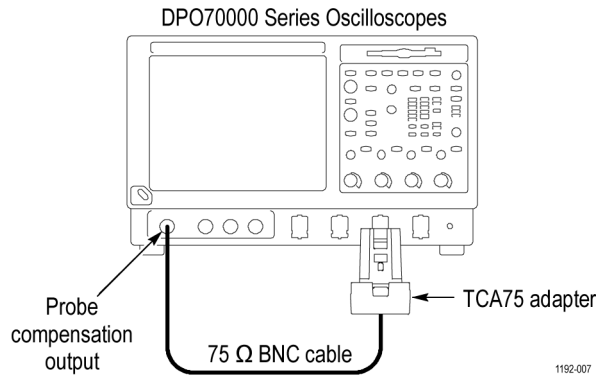

Figure 9: Probe calibration setup
2. Connect a 75 Ω coaxial cable between the TCA75 adapter input and the PROBE COMPENSATION output connector on the oscilloscope. The test setup is now connected as shown. (See Figure 9.)